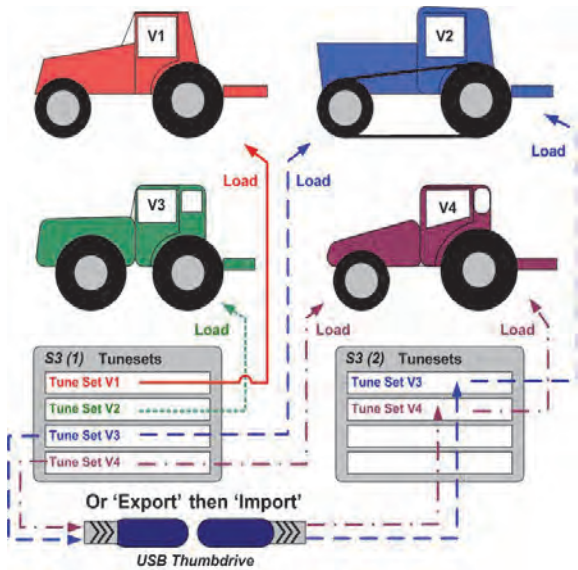

Figure 3-3: Loading, exporting and importing tune sets
Figure 3-3 shows four tunesets stored on S3 (1) each of which can be loaded on the appropriate vehicle when the S3 (1) is installed in that vehicle.
As also shown in Figure 3-3, you can export the tunesets for V3 and V4 (for example) to a USB flash drive then import those tunesets from the flash drive onto another [S3 (2)] on another vehicle. Once imported, you can load the appropriate tuneset from S3 (2) just as you could when they were on S3 (1) on the other vehicle.